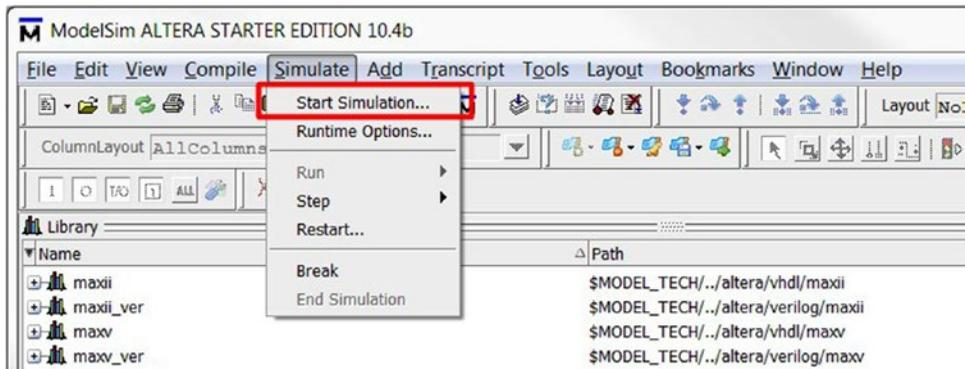

Figure 4-43. Recompile `bemicro_max10_top_vhd_tst`
9. Click **Simulate ► Start Simulation...** in the ModelSim menu. It will open the Start Simulation dialog (Figure 4-43).